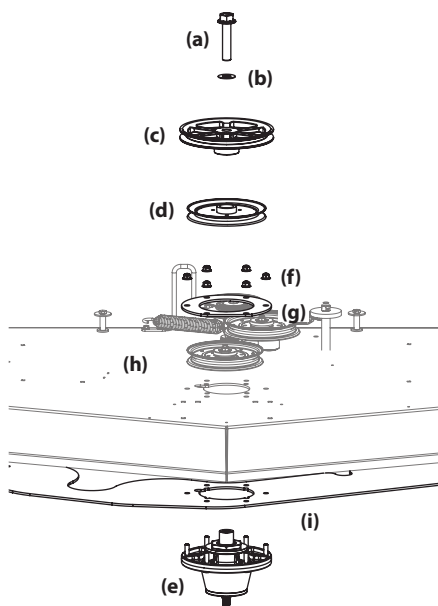

Figure 4-29
- Remove the hex flange bolt (a) and flat washer (b) securing the drive pulley (c) and center spindle pulley (d) to the spindle assembly (e). See Figure 4-29.
- Remove the six (6) flange lock nuts (f) securing the center (d) spindle assembly (e) and the support plates (g) to the deck shell (h). See Figure 4-29.